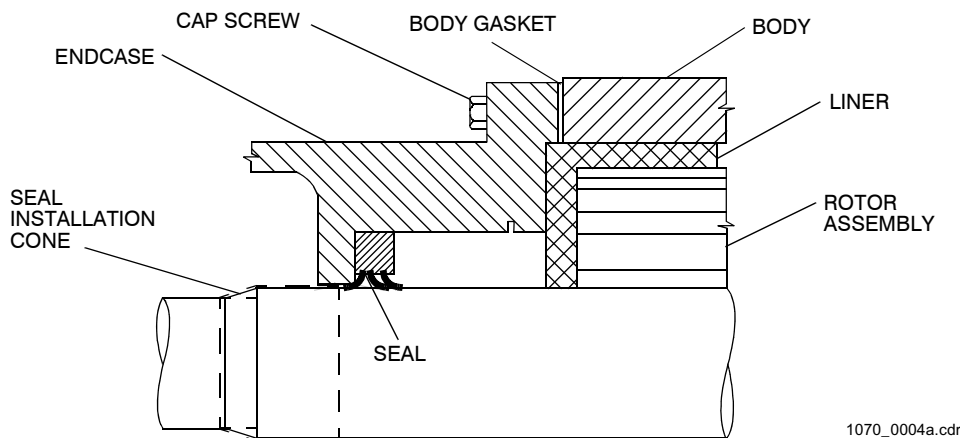

Figure 2-4. Single Lip Seal Installation
2. Install lip seals (20, Figure 4-1) in seal bores of endcases (17). Press seals all the way to the bottom of the bore as shown in Figure 2-4. We recommend using an arbor press to seat the seals. Installation tools are available from Edwards-Pentair Water.
3. Pre-lubricate grease seals (16) with approved grease (7, Table 2-1).
Lip seals have two lips on one side and one lip on the other side. The side with two lips must face toward pump body as shown in Figure 2-4.